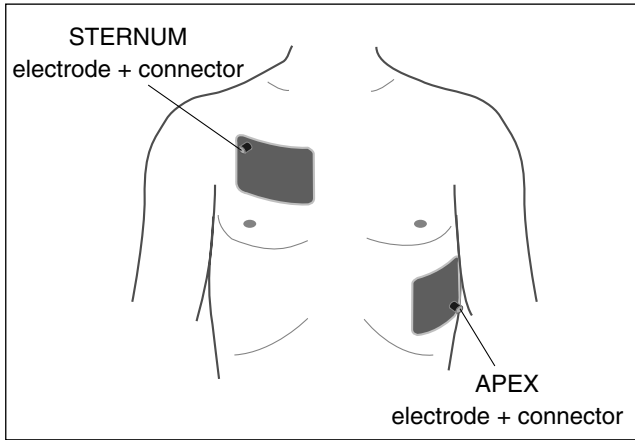

Figure 5-1. Anterior – anterior placement
- * Apply the pads as shown in Figure 5-1 or 5-2 (also refer to section 4.2 “Defibrillation with Internal Electrodes or Single-Use Pads”).